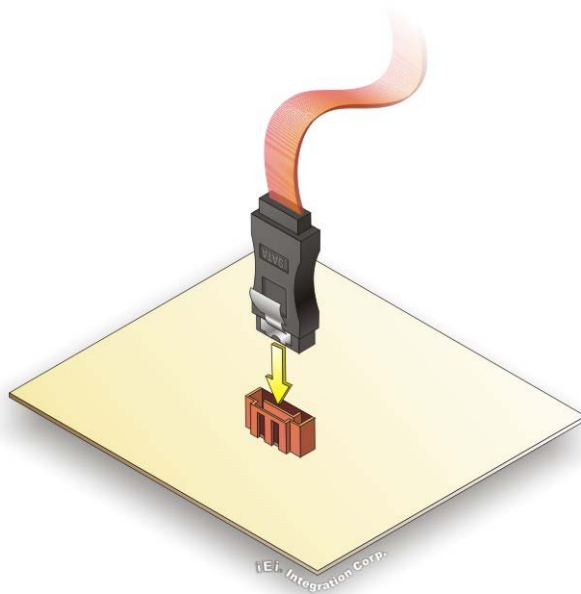

Figure 4-17: SATA Drive Cable Connection
Step 2: Insert the cable connector. Insert the cable connector into the on-board SATA drive connector until it clips into place. See **Figure 4-17**.